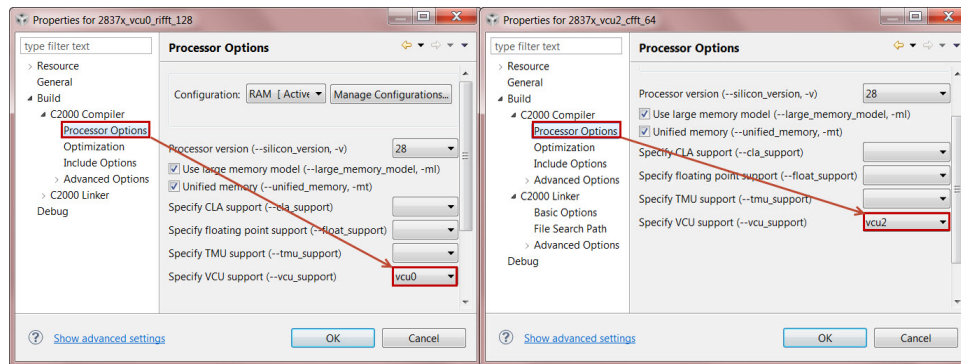

Figure 4.5: Turning on CLA support
2. Enable the **-vcu\_support** option in the **Runtime Model Options** to either **vcu0** or **vcu2** depending on the library used (Fig. 4.5).